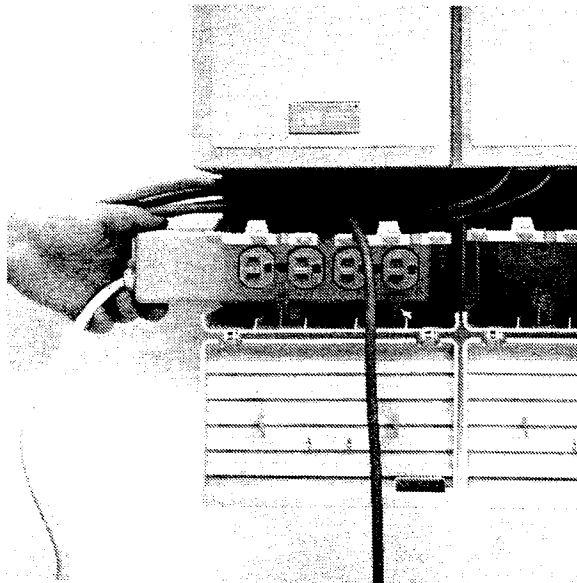

Figure 7.1 - Power bar installation
1. Slide the power bar(s) into the lower shelf of the cable trough as in Figure 7.1. All power cords must go only in the lower shelf of the cable troughs. Where four or more Trunk and/or Station Modules are present use a second power bar to provide the additional ac plugs. The ac power cord from the second power bar must be plugged into the first power bar.